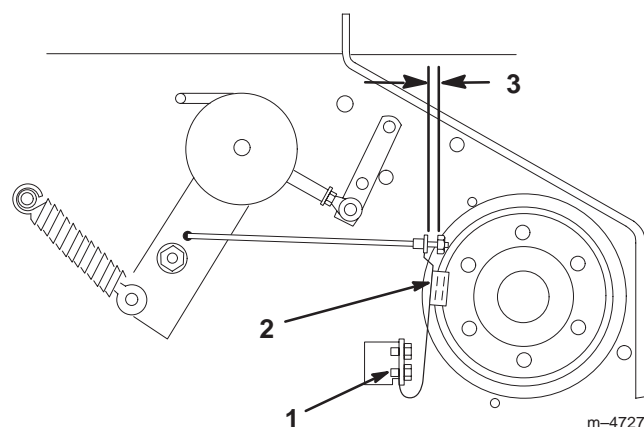

Figure 62
3. If necessary, adjust the spring mounting bolts so that the blade brake pad rubs against the pulley edges (Fig. 62).
4. Adjust the nut at the end of the blade brake rod until there is 1/8–3/16 in. (3–5 mm) between the nut and the spacer (Fig. 62).